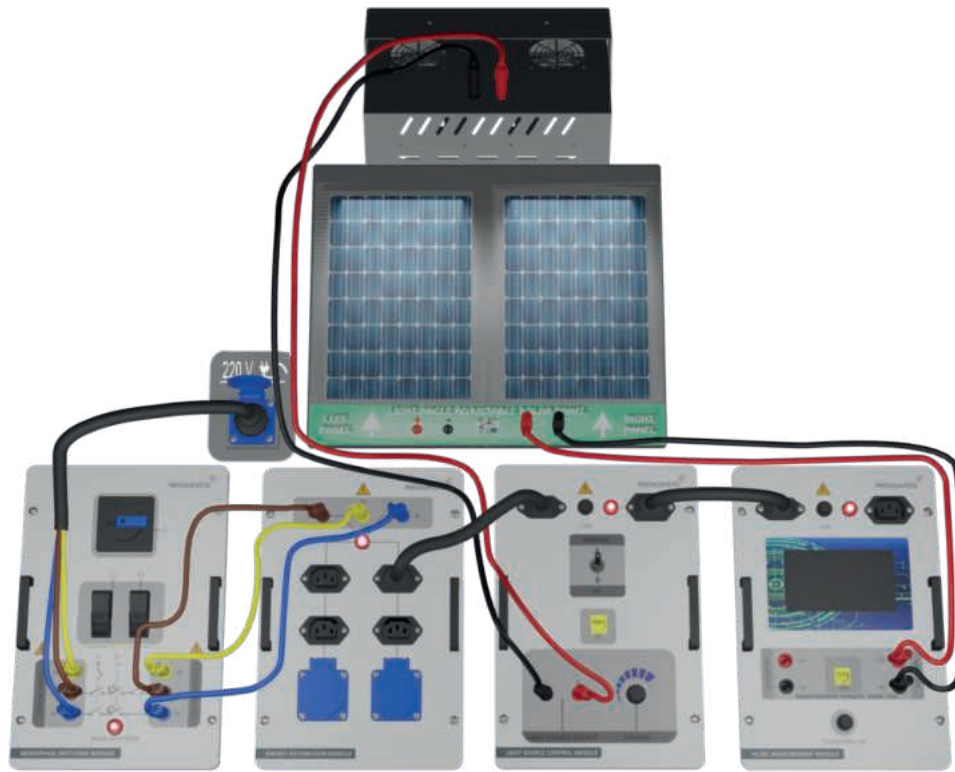

Figure-38. Installation Image of Examination of the No-Load Output Voltage Due to the Season Change of the Photovoltaic Panel (For Current)
1. Set up the connection as specified in Figure-38. Ensure a constant level of light in the laboratory by creating an average scenario. Any alterations to the positions of the lamps or curtains will have an impact on the experimental outcomes.